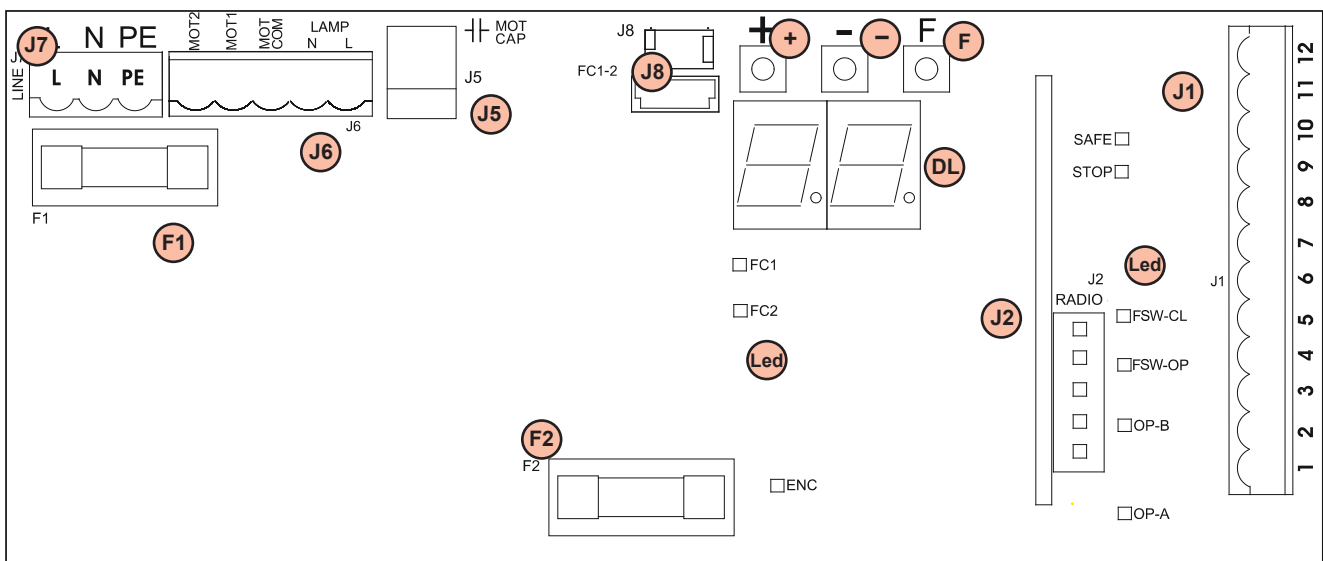

Fig. 22
- Properly ground the gate operator to minimize or prevent damage from power surges and/or lightning. Use a grounding rod if necessary. Connect the ground cable to the PE terminal on J7 (Fig. 22), and to the ground lug on the operator (Fig. 40). A surge suppressor is recommended for additional protection.
Protection Fuses	2 (see Fig. 22 and Section 5.3)